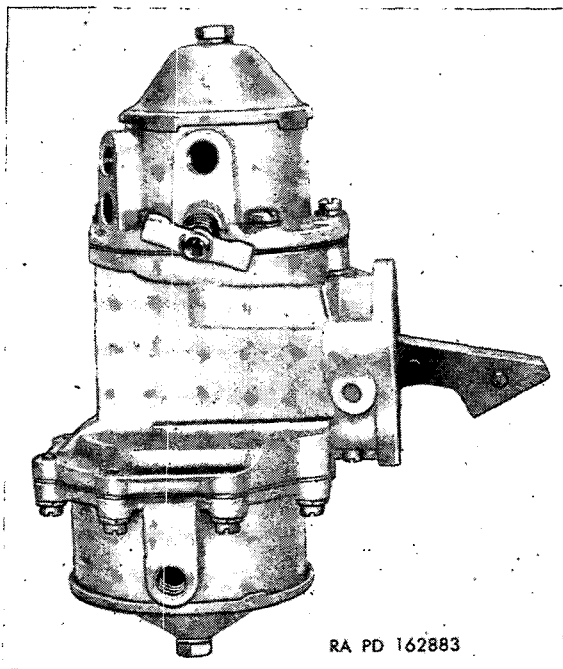

Figure 57. Fuel and vacuum pump, series CF.
- (1) Mark edges of fuel cover and body diaphragm flanges of series CF fuel and vacuum pump (fig. 57) with a file. Mark at heat shield stud, if used. The parts may then be assembled in the same relative position. Note that the fuel diaphragm